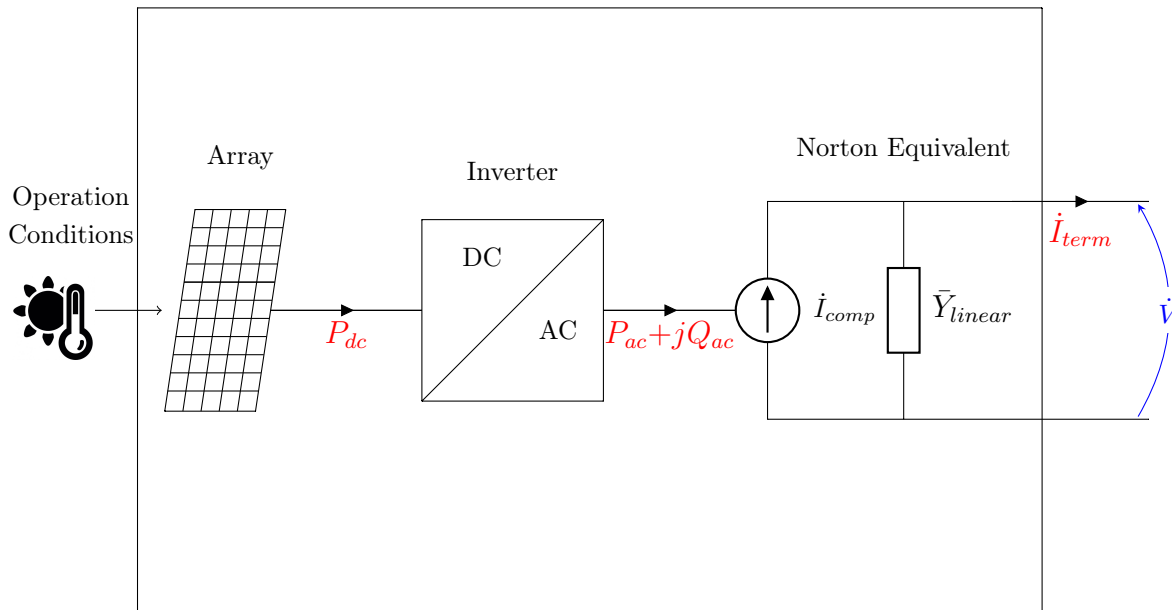

Figure 1: Block diagram of the PVSystem2 element model
Figure 1 shows a schematic diagram of the PVSystem2 element model recently implemented in OpenDSS version 8.6.6 at Build 5. The model combines the photovoltaic (PV) array and the PV inverter. It assumes that the inverter is capable of tracking the maximum power point (mpp) of the panel quickly, allowing adequate use in QSTS simulations with a time step of at least one second. This considerably facilitates PV modeling and is an adequate simplification for most interconnection impact studies.